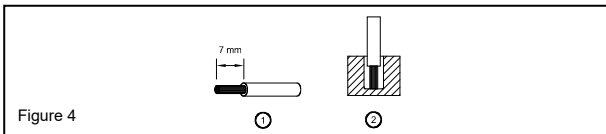

Figure 4
You can use flexible (stranded wire) or solid cables with cross section 3.3-5.3 mm² (AWG 12-10) and torque of 7.3 Kgf-cm max (6.3 lb in). To secure reliable and shock proof connections, the stripping length should be 7 mm (see Fig. 4 (1)). Please ensure that wires are fully inserted into the connecting terminals as shown in Fig. 4 (2).